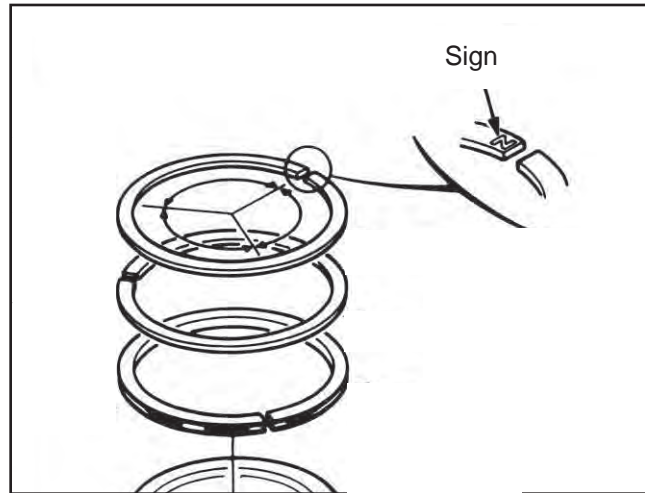

Figure 6
2. Stagger the ring gaps approximately 120° apart (Figure 6).